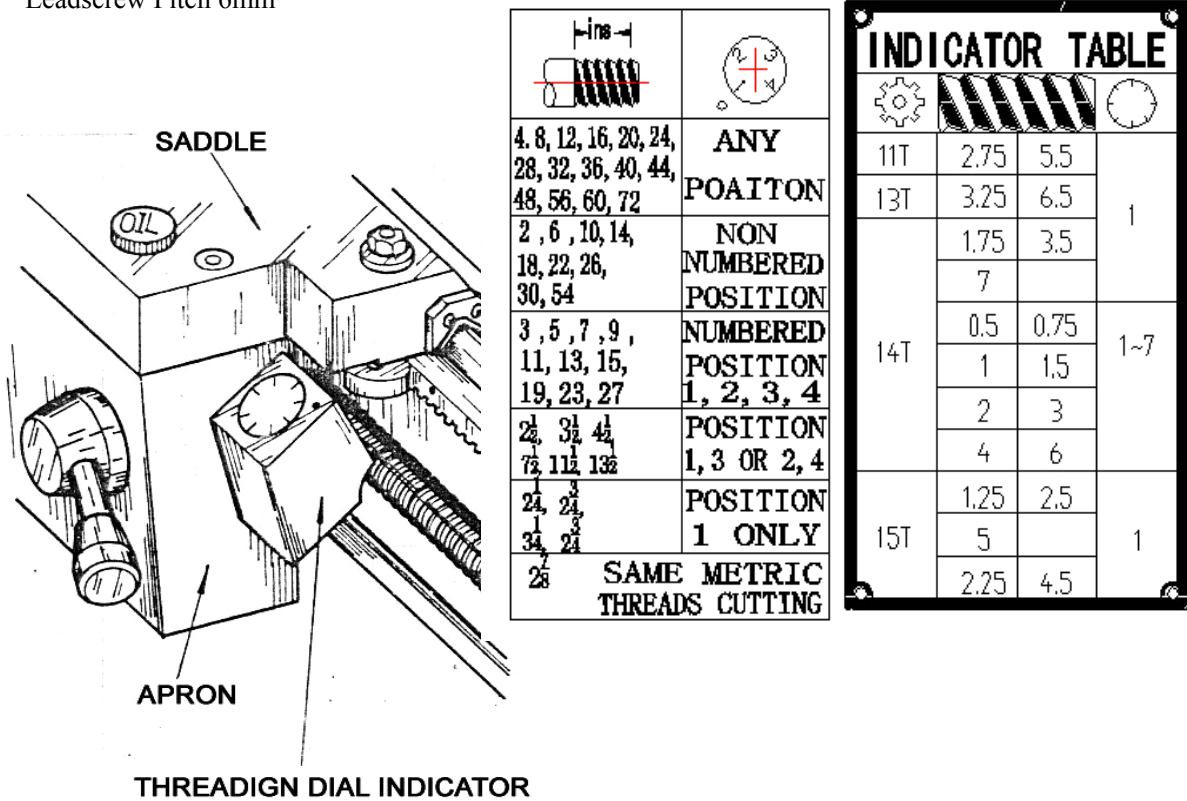

Fig.12
When fitting chucks or faceplates, first ensure that spindle and chuck tapers are scrupulously clean and that all cams lock in the correct positions; see Fig.12. it may be necessary to re-set the cam lock studs (A) when mounting a new chuck. To do this, remove the cap-head locking screws (B) and set each stud so that the scribed ring (C) is flush with the rear face of the chuck-with the slot lining up with the locking screw hole. See Fig.13.